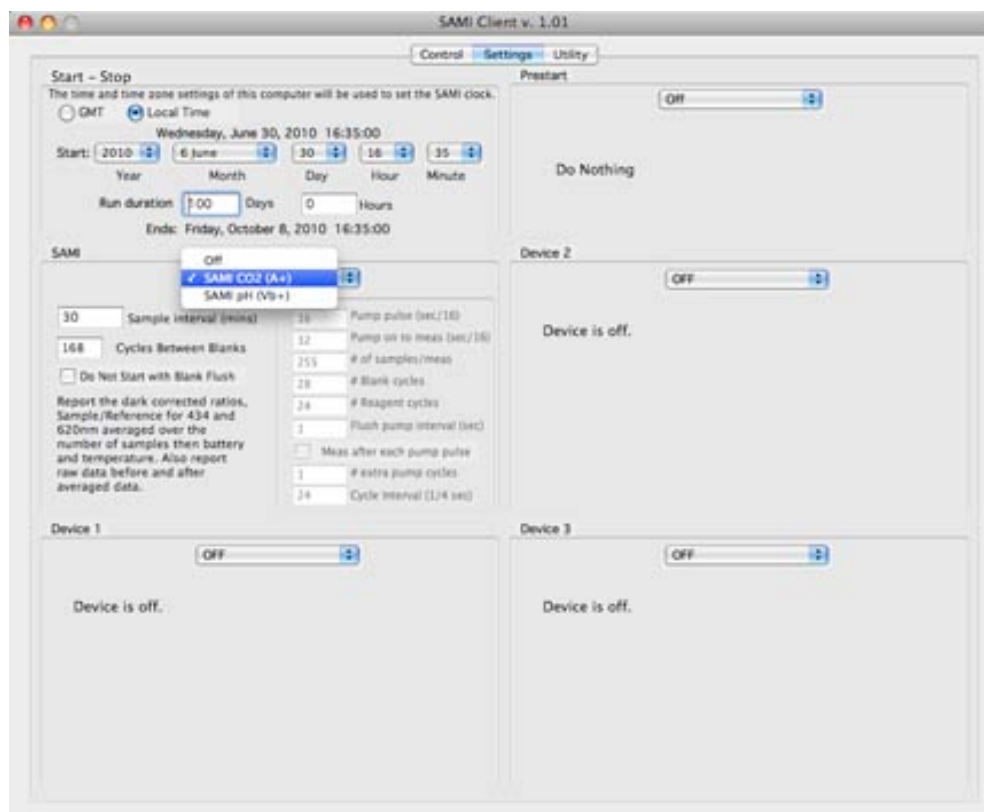

Figure 2. Settings window
6. Under the Settings tab, in the SAMI subpanel, choose SAMI/AFT CO2 (A+). Set the desired start time. You may choose to record battery and temperature prior to start using the 'Prestart' sub-panel. If you have any external instruments they will be programmed using 'Device 1, 2 or 3'. (See figure 2 below)